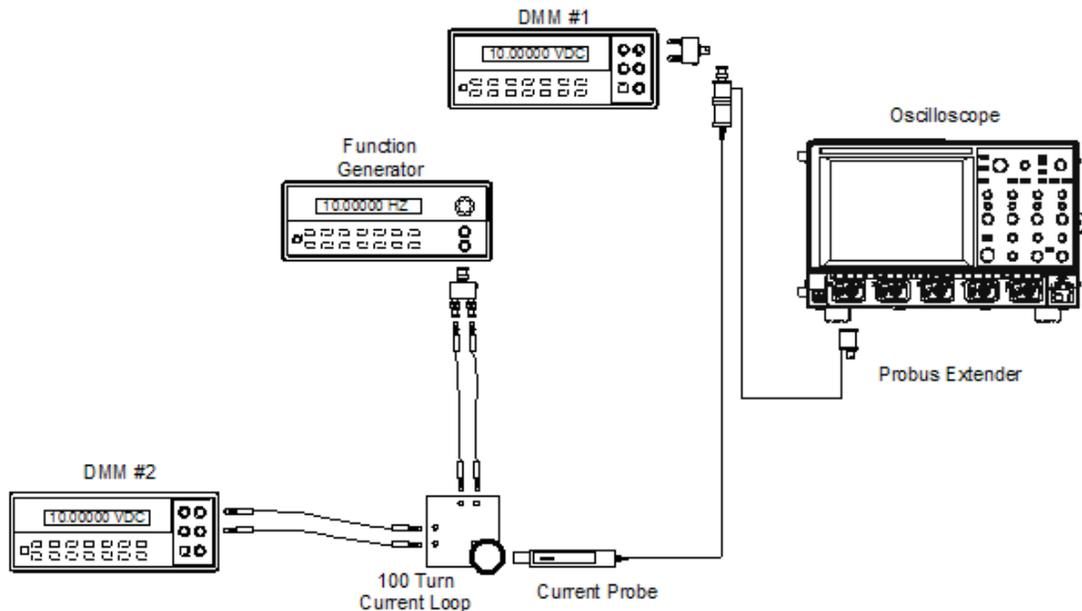

Figure 5-1. LF Accuracy Adjustment Set Up
3. Using banana patch cords, connect the 'V Source' and 'V Return' terminals of the 100 Turn Calibration Loop, to the output of the Function Generator using the BNC to Dual Banana Plug Adapter output. (Refer to Figure 5-1)